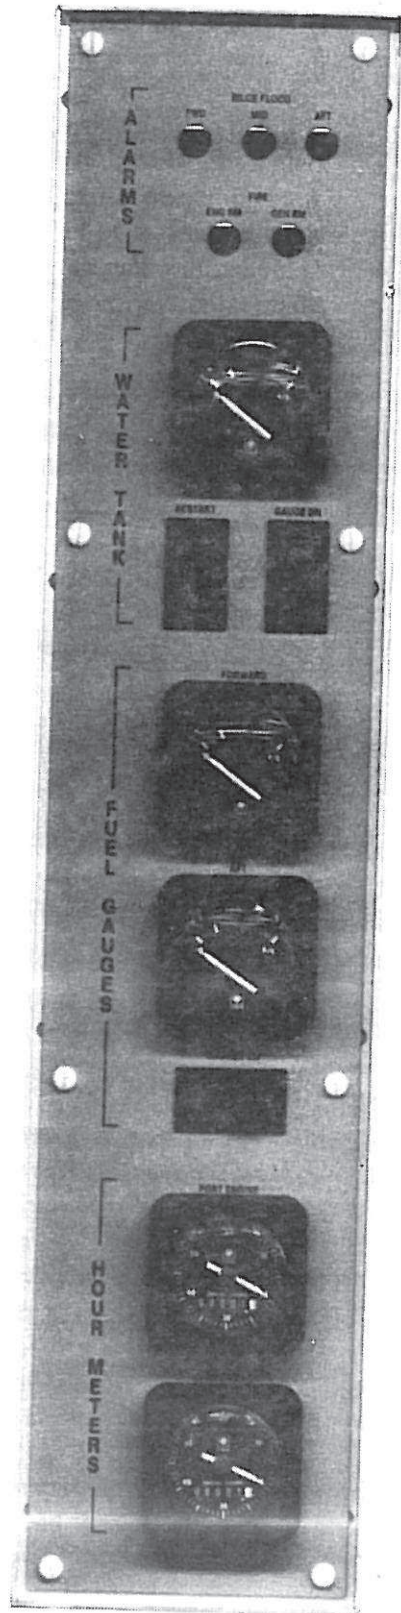

Figure 7 - Salon Gauge and Switch Panel
The fresh water tank gauge is on the salon gauge and switch panel and reads in quarters of a tank full (see Figure 7 - The Salon Gauge and Switch Panel). This gauge is normally OFF. To activate, depress the "READ GAUGE" momentary-contact, rocker switch next to the gauge. Also on this panel is the "RESTART" momentary-contact rocker switch that restarts the fresh water pump after filling if the tank has run dry.
The two (2) fuel gauges are also mounted on the salon gauge and switch panel. As shown in Figure 7, each fuel gauge is labeled with the name of the tank that it monitors. Fuel tank gallonage and selection are discussed in detail in Part II, Section V, Propulsion System Operation.
Each of these twometers tracks the total hours its respective engine has been operating. Engine running time is accumulated regardless of engine speed (rpm). The engine hour meters are energized by the ignition switch. They are located on the salon gauge and switch panel as shown in Figure 7.